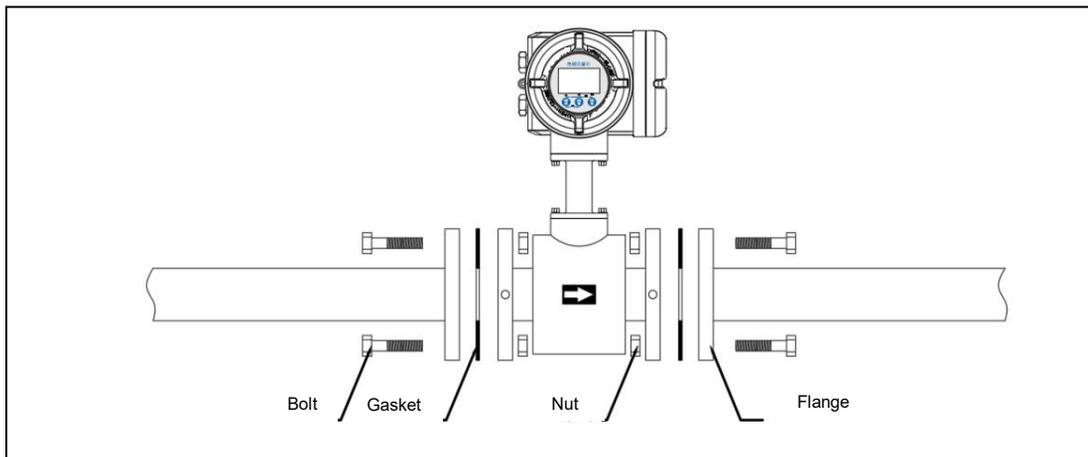

Figure 4.3.1 Installation of integrated electromagnetic flowmeter
- 2) Figure 4.3.1 shows that the bolt is inserted from one side of the pipe flange, while the other side is fixed and tightened with a nut.